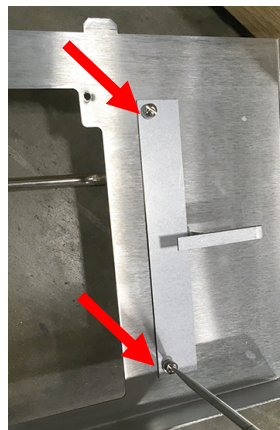

Figure 33
44. Attach the bracket using the screws, removed from the previous step as shown (see Figure 33).